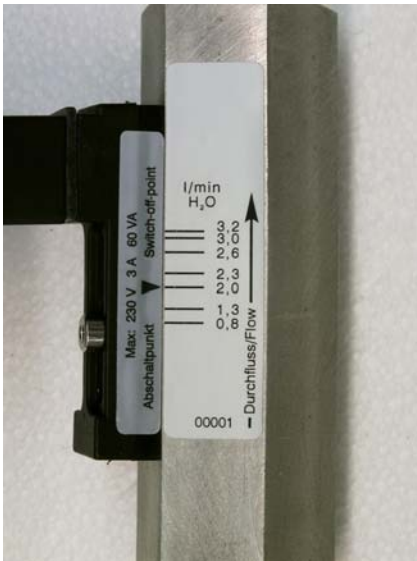

Fig. 33: Reading-off the switch point value (sample scale)
1. Make sure that the setting arrow and the scale mark on the switchpoint adjustment scale are in alignment (Fig. 33).